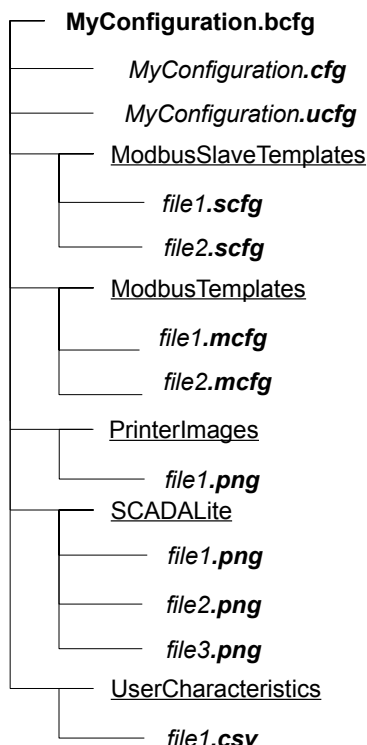

*Fig. 7.25. Example of a configuration file selection window. The list shows the file name and/or configuration file type.*
**Figure 7.25** shows an example view of the window for selecting configuration files located in the device (if the **Save bundled configuration** option is selected) or contained in the selected archive of bundled configuration (if the **Load bundled configuration** option is selected).